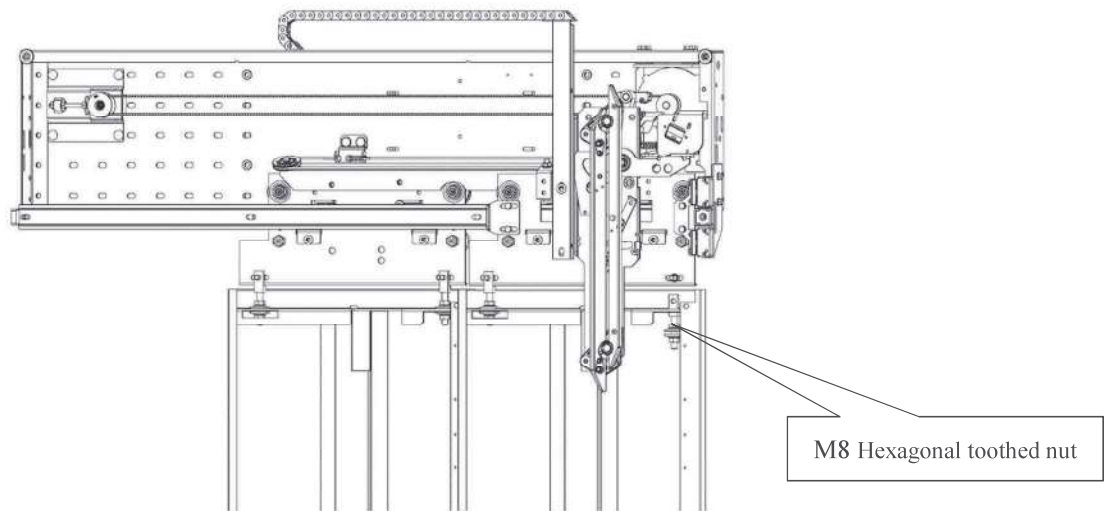

Figure 5-4-2 Adjustment of horizontal positions of the car door panels
- a) Horizontal adjustment: Loosen the M8 hexagonal toothed nut on the hanging bolt assembly, and adjust the horizontal positions of the two door panels separately, refer to Figure 5-4-2.